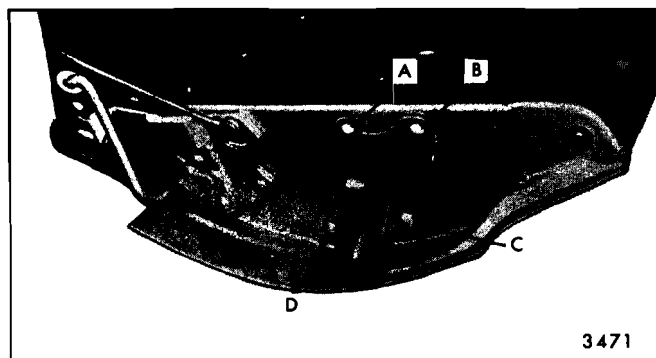

Fig. 9-28—Tail Gate Left Lock Assembly - "B" Body Shown - "A" Body Typical
2. On "B" body styles, bolts A, B, C & D (Fig. 9-28) are all retained by nuts accessible through tail gate inner panel. On "A" body styles, bolts A & B fit into a tapping plate and bolts C & D are retained by nuts. In either